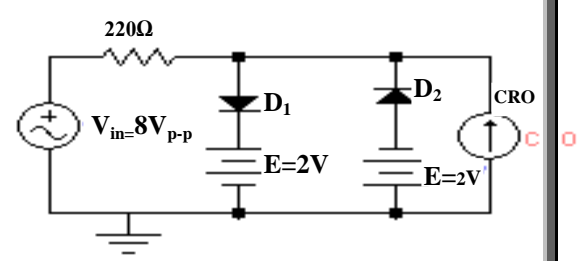

Fig. 3
1. Set up the experiment as in Fig. 3.